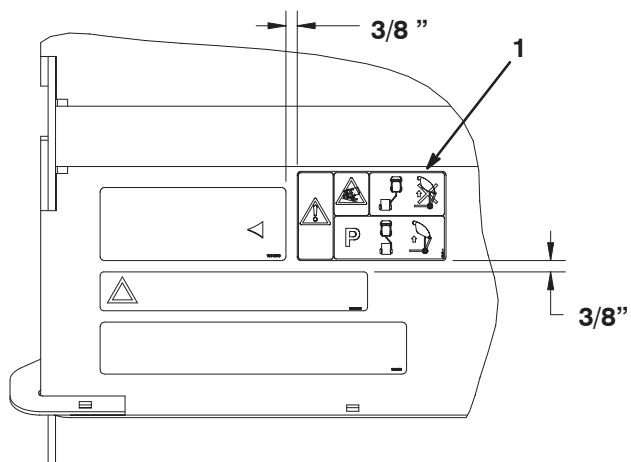

Figure 11
28. Using the dimensions shown in figure 11, locate and affix the new decal to the front right corner of the sweeper.